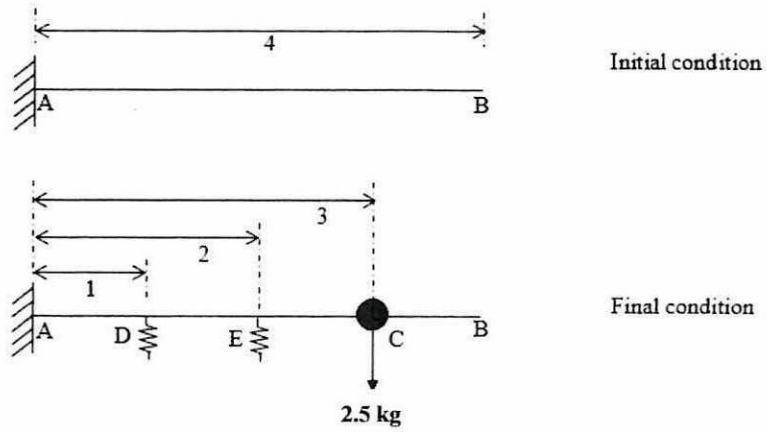

Figure Q6(b)
- (b) A uniform thin rod AB as shown in **Figure Q6(b)** is hinged at point A. The moment of inertia of the thin rod at point A is 80 kgm^2 . A concentrated mass of 3 kg is then fixed at point C and balanced horizontally by two springs positioned at point D and E. Given the spring stiffness of spring D and E are 3.5 kN and 1.5 kN respectively.